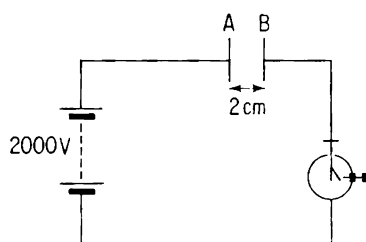

Fig. 477
- (i) Connect a pulse electroscope as shown in Fig. 477 and place a very high resistance (for example, a handkerchief) between the plates A and B. This allows charge to flow to the leaf of the electroscope so that it is deflected. When the leaf touches the side electrode it is discharged and so falls back. The process is repeated again and again, and the number of pulses per second is a measure